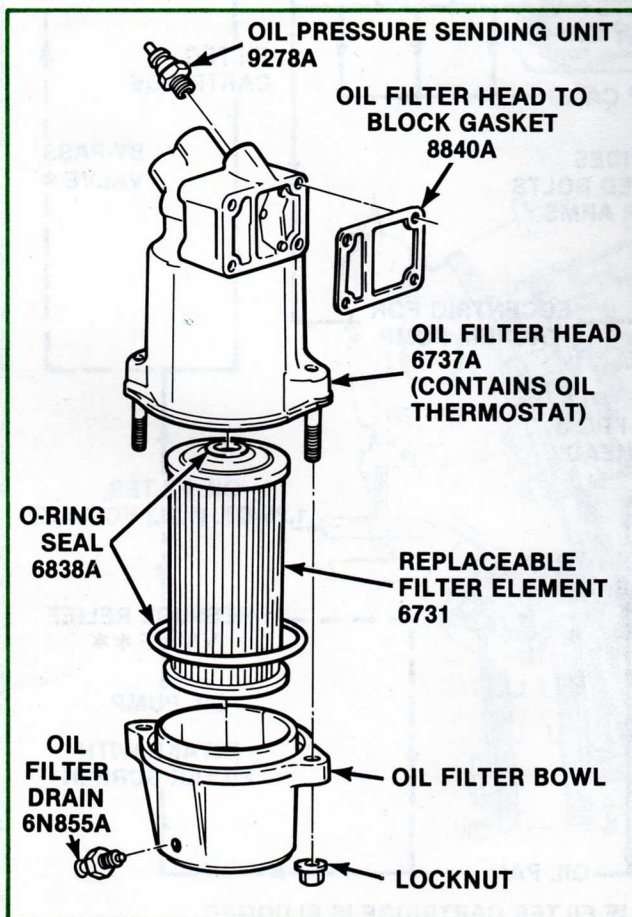

Figure 5. Oil Filter Housing and Replaceable Element
- A permanent oil filter housing with a replaceable paper element (Fig. 5)